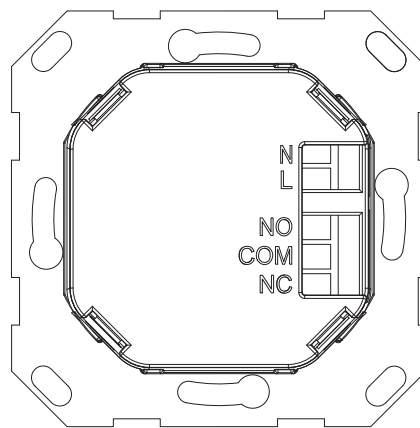

Fig. 2: Rear of flush-mounted insert
- Apply 230 V AC power supply to the L and N terminals on the rear of the flush-mounted insert (see figure 2).
- Actuators are connected via the terminals NO / COM / NC on the rear of the flush-mounted insert (see figure 2 and the 'Zero-voltage contact' section).
The ambient air sensor CO2 has a zero-voltage contact to which an actuator must be connected. The connection terminals of the zero-voltage contact are located on the rear of the flush-mounted insert (see figure 2).